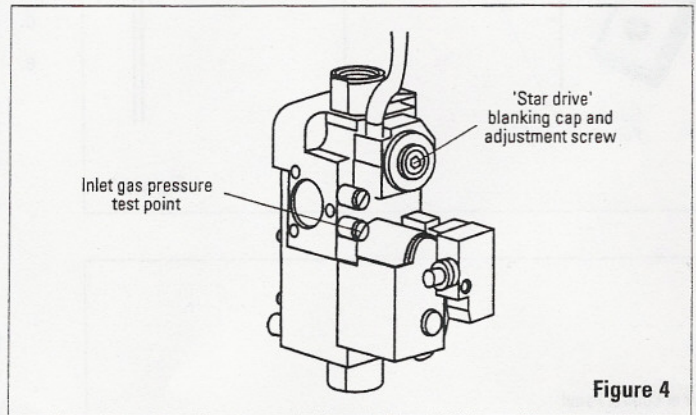

Figure 4
- g. Using a 'star drive' screwdriver, remove the gas valve blanking cap, see Fig. 4. Turn the inner screw clockwise to increase CO₂ and anticlockwise to reduce CO₂ until the correct value is obtained. Replace the blanking cap.